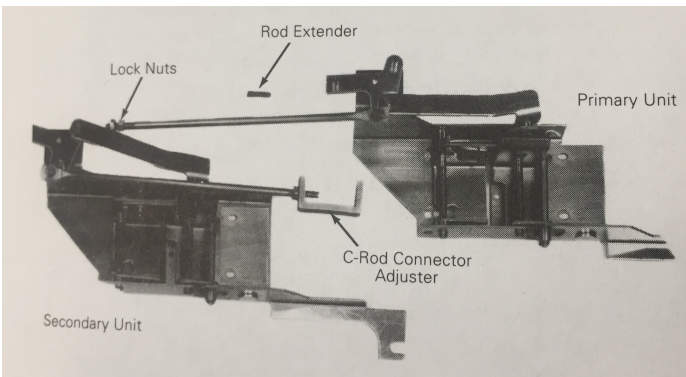

Figure 7. Attachment of the interconnection rod for a horizontal installation.
1. For a horizontal installation, attach the long rod ends to the pins on the pivots as shown in Figure 7. A variety of connecting hardware is provided in the Mechanical Interlock kit; the $\frac{1}{4}$ -20 threaded rod is supplied by the customer.